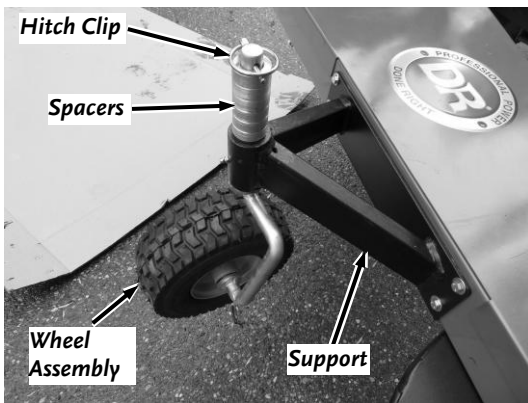

Figure 28
1. Remove the Hitch Clip and remove the Wheel Assembly with Spacers (**Figure 28**).